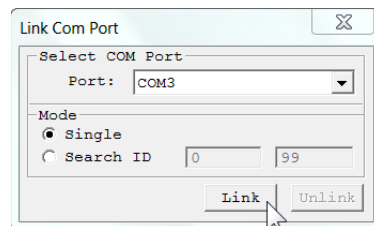
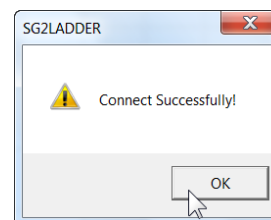

Figure 14
Figure 15
- 3) Select the **Link** button, to link the SG2 Programmable Relay unit to the SG2 programming software (Figure 14). “Connect Successfully” message will open. Select **OK** to complete link (Figure 15).